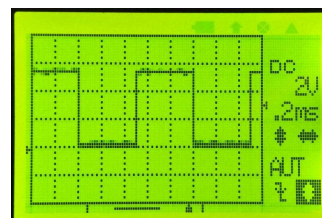

Fig 4
- 4) Press the [ V.POS ] button, and adjust 0V indicator to the position shown in Fig. 4.